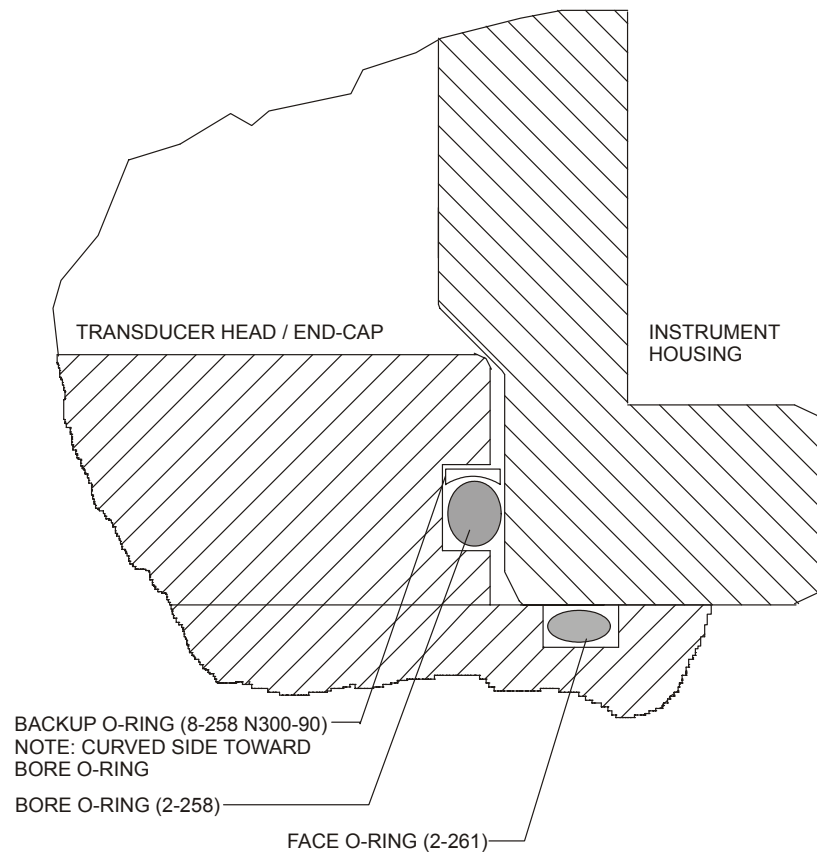

Figure 18. High Pressure O-Ring Detail View
- d. The backup O-ring (see Figure 18, page 46) is installed in addition to the 2-258 bore O-ring on the transducer head assembly for 1000, 3000, and 6000-meter high-pressure systems only. Install the backup O-ring with the cupped side facing the 2-258 bore seal O-ring.